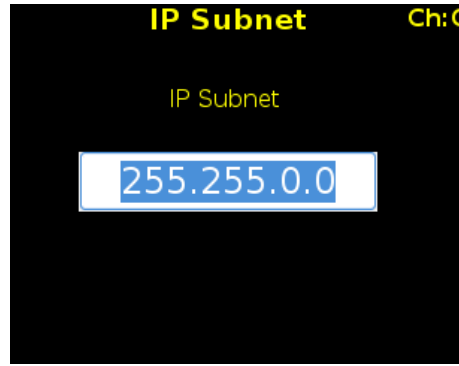

Figure 152: IP Subnet Entry
2. Type the IP subnet in the IP Subnet entry screen (Figure 152), then press the Enter key.